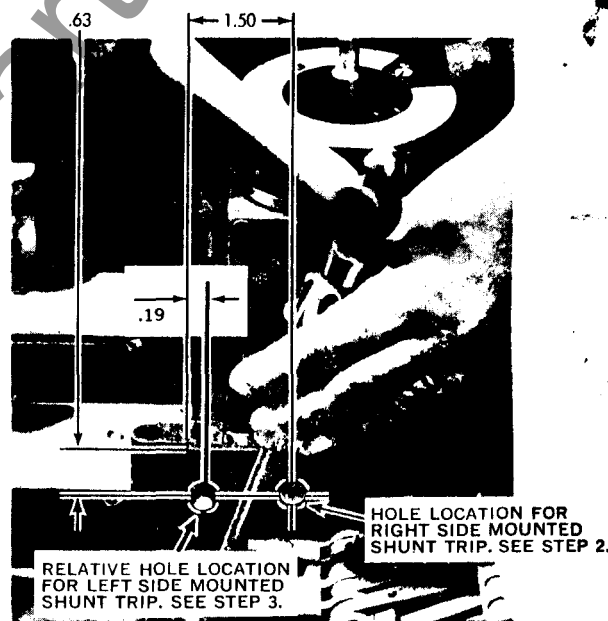

Fig. 2. View showing knockout method and 3/8-inch hole
- a. Remove the left knockout in right pole of the breaker base, using screwdriver and hammer as shown in Fig. 2.
- a. Remove right knockout in left pole of breaker base, using method shown in Fig. 2.
- b. Drill a 3/8-inch hole through the base wall between left and center pole in same relative location as shown in Fig. 2. Hole may be angled downward as required.